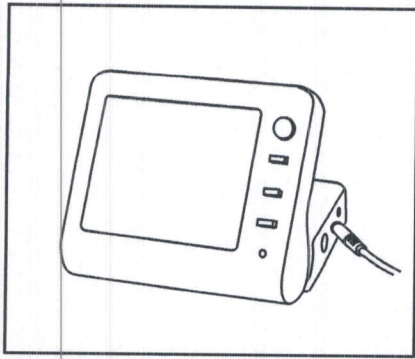

Fig.4
2) Connect the charger cable to the instrument. (Fig.4)